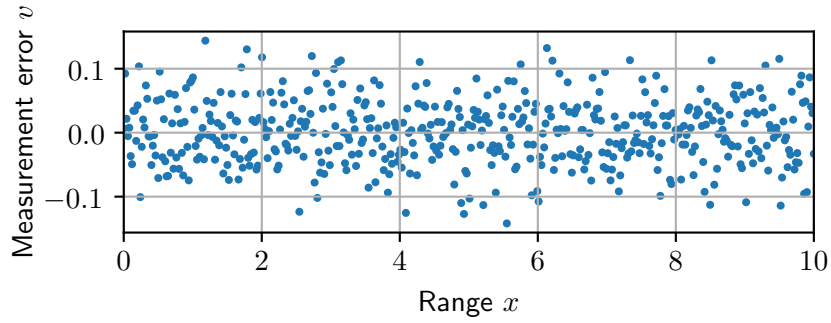

Figure 2: Error between measured data and model for non-linear sensor calibration data.
5. If you have a good model, the mean error is zero and the variance is minimized. I suggest plotting the error, v_n , as a function of x_n to see how good your model is. For example, see Figure 2.